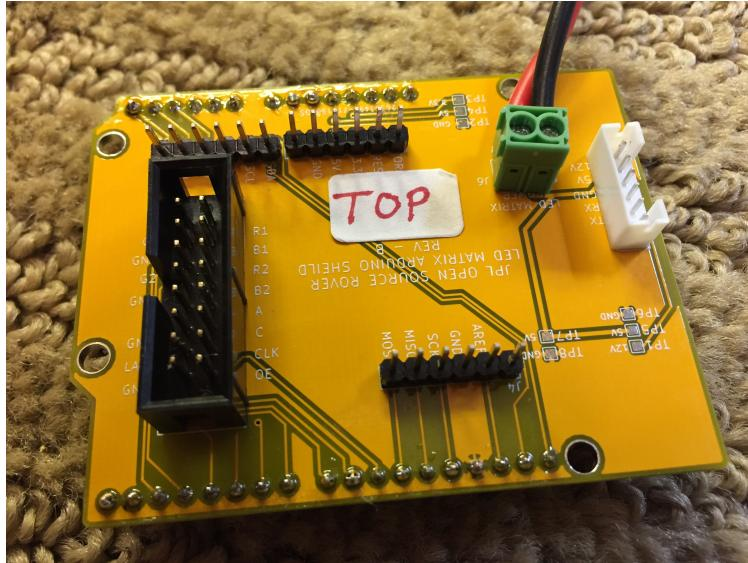

Figure 17: Assembled Arduino Shield
Now, we will assemble the Arduino shield that will sit in the rover's head and control the face. We will start with the **TOP** side of the Arduino board. The final product is shown in Figure 17.
1. Begin by taking the 2-position terminal block **E18** and soldering it to top of the board at the J6 connector, such that the screw terminals face outwards as shown in Figure 17:
2. Solder the 1x6 JST connector **E14** onto the top of the board at the J5 connector such that the notch in the connector faces **OUTWARDS** as shown in Figure 17:
- Solder the 2x8 shrouded header pin connector **E19** to the top of the board at connector J1 such that the notch faces **OUTWARDS** as shown in Figure 17.